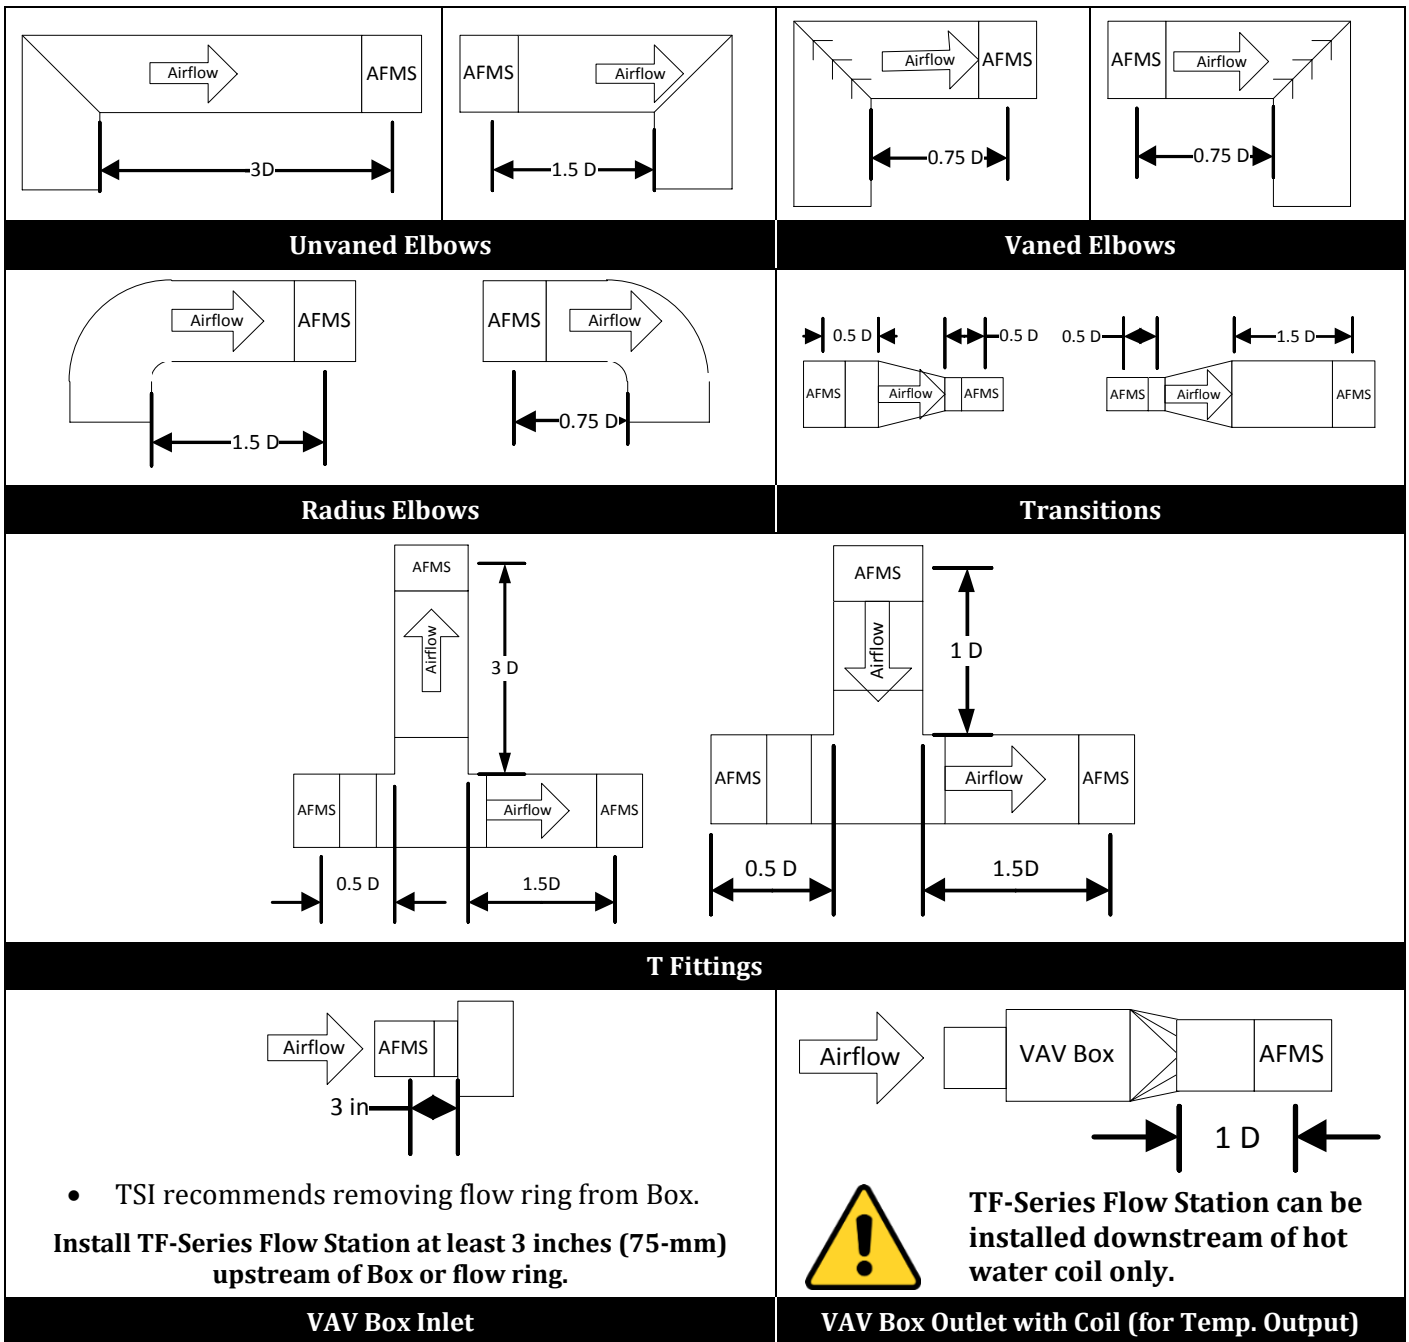

Figure 2. TF-Series Flow Station Minimum Placement Requirements Guide
Placement of the TF-Series Flow Station is critical for proper operation and accuracy of the airflow measurement station. Figure 2 shows minimum placement requirements for the TF-Series Flow Station in typical applications. Probe placement is expressed in multiples of 'Simple Equivalent Duct Diameter - "D," which is determined as follows:
1. Using the illustration in Figure 2 that most closely matches the installation, multiply the calculated "D" value from above by the value indicated in the application illustration. This is the calculated location for the TF-Series Flow Station.